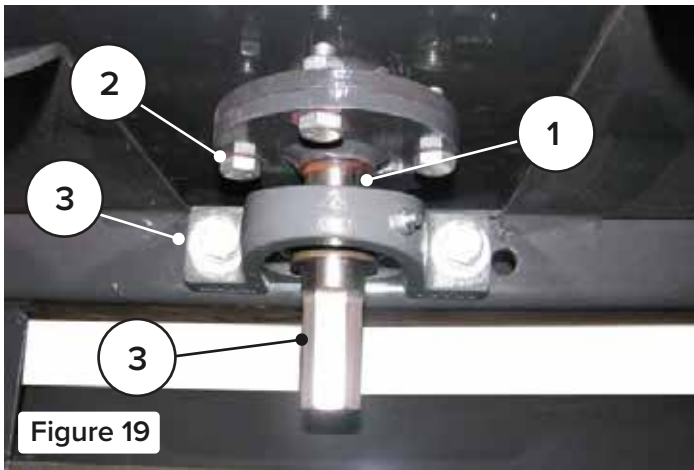

Figure 19
8. Loosen the bearing offset locking collar set screws (Item 1) and loosen the offset locking collar. [Figure 19]
9. Remove the four adapter shaft mounting bolts and nuts (Item 2). [Figure 19]
10. Remove the two bearing mounting bolts (Item 3). [Figure 19]
11. Attach a lifting device to this end of the spool and lift slightly to allow removal of the adapter shaft (Item 4) from the spool. [Figure 19]